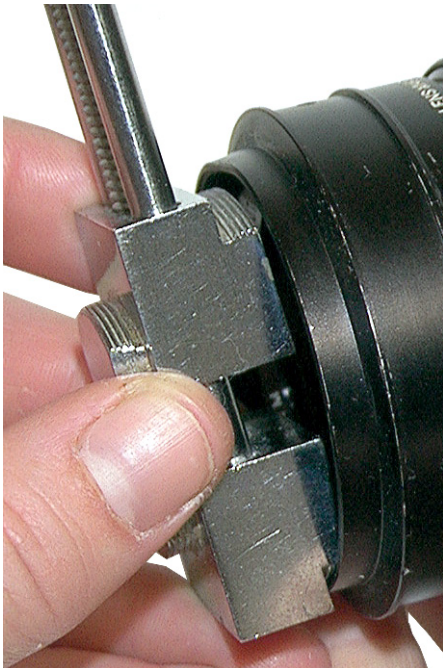

FIGURE 1
2. Locate the dented section of the lens and insert the Lens Vise with the handle pointing at the center of the dent as shown in figure 1.